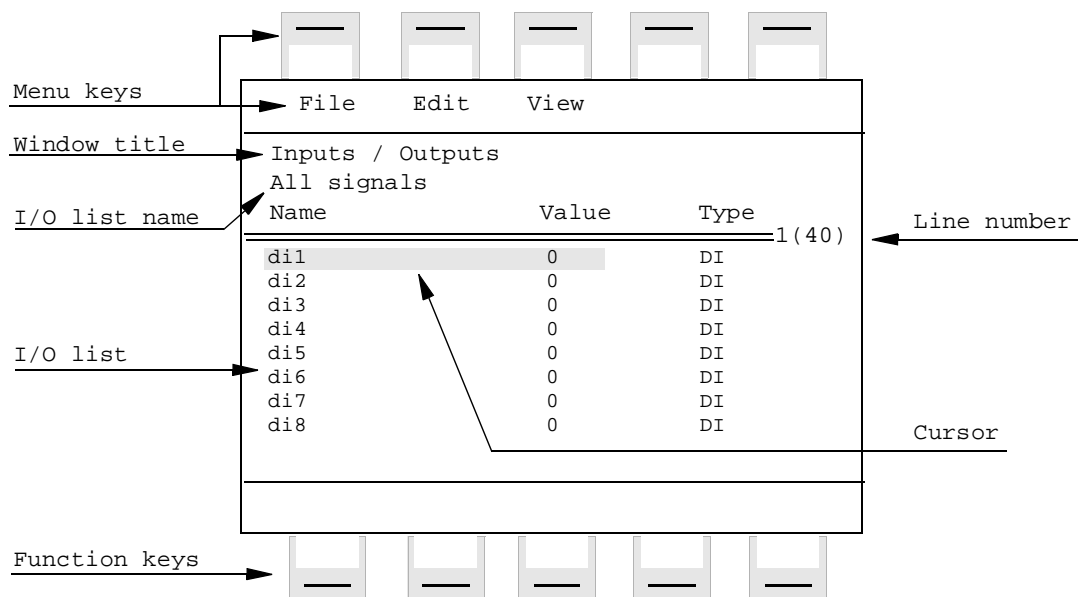

Figure 11 Window for manual I/O handling.
2. The window for manual I/O is now shown on the display, as in Figure 11. The appearance of the I/O list may vary depending on how the signals have been defined and how many I/O boards there are in the system.